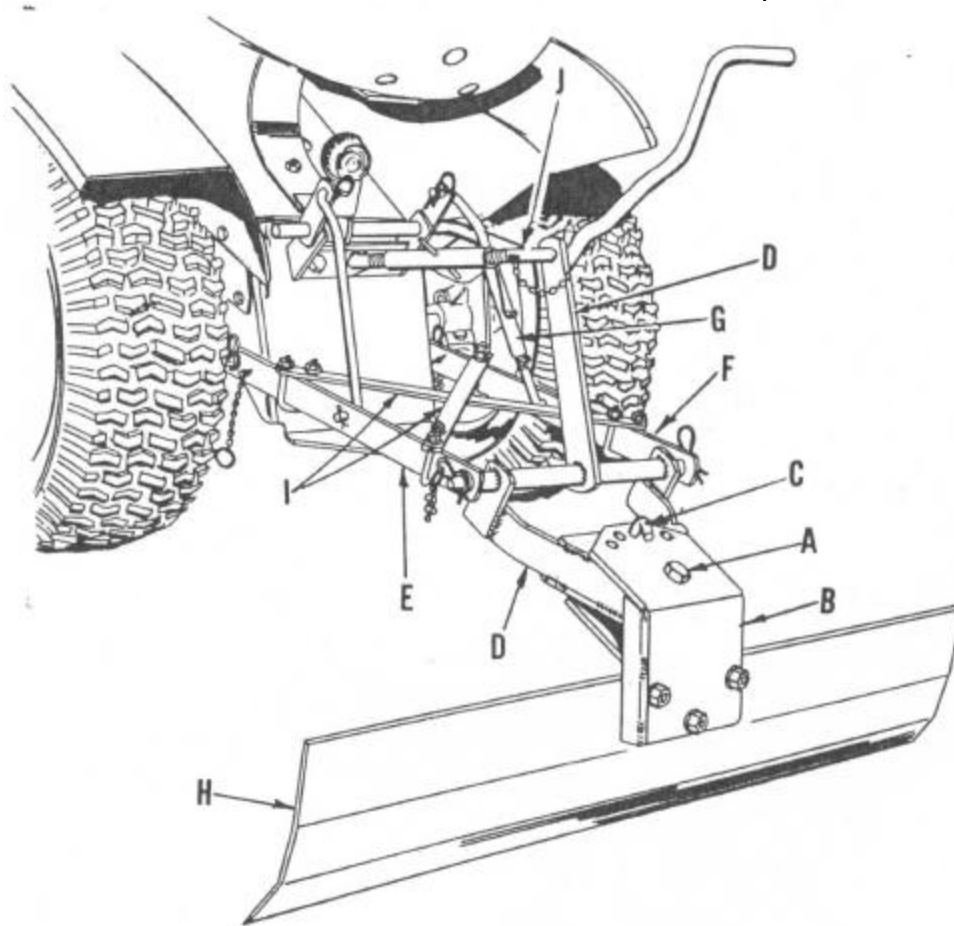

FIG. 1
A letter in parentheses in the following instructions refer to Fig. 1, above.
- Position the two hitch braces (I) over L.H. and R.H. bottom links (E and F), as shown in Fig. 1. Secure with the four U-bolts, lockwashers and hex nuts shipped in bag of parts.
- Assemble top link of three point hitch (J), to frame weldment (D), as shown and secure with spring retainer.